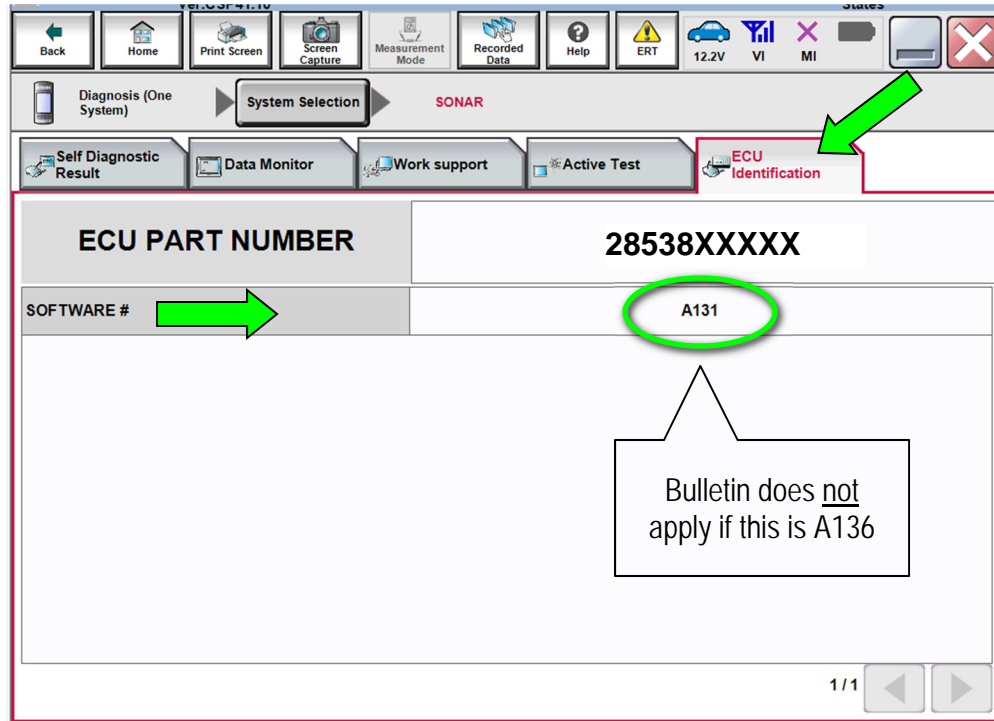

Figure 5
13. Confirm the SOFTWARE #. See Figure 5.